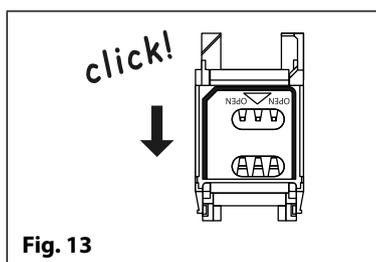

Fig. 13
1. First slide the SIM holder on the back of the digital GSM module down until it 'clicks', as shown in **Fig.13**.